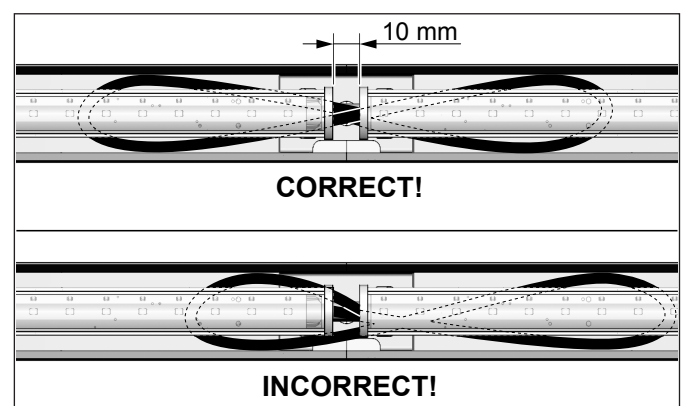

Figure 3
- Maintain 10 mm spacing between two LED lamps (figure 3).
- Make sure the cable routing is correct! Link cables must be routed in a loop centrally below both LED lamps (figure 3).